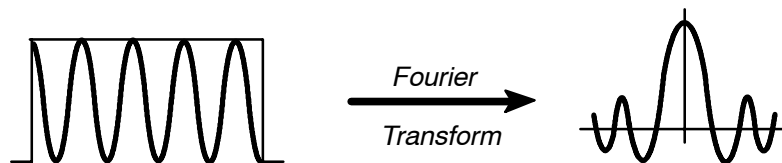

Figure 2-13 The Scan Options Screen
*The table and soft keys shown in Figure 2-13 are displayed. Figure 2-13 shows the factory default values for the Scan options. If the scan mode is **igram**, the table does not include resolution and apodization. If your Spectrum RXI does not have an accessory with an external detector, the table does not include **gain** or **speed**.*